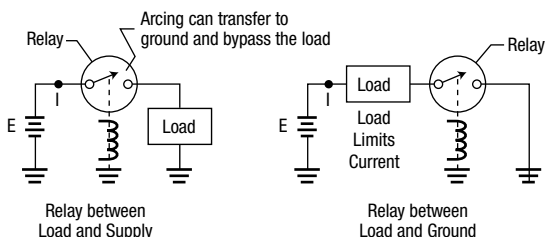

Figure 8
If only relays with internal grounds are available for your hot switch application, the relay should always be placed on the ground side of the load to prevent breakdown damage. Otherwise, fault conditions may cause internal arc-over to the grounded housing (Figure 8).
- When vacuum relays are mounted, the relay base should be connected to ground (also see Figure 8 on page 10 for more information on positioning of the relay within the circuit).